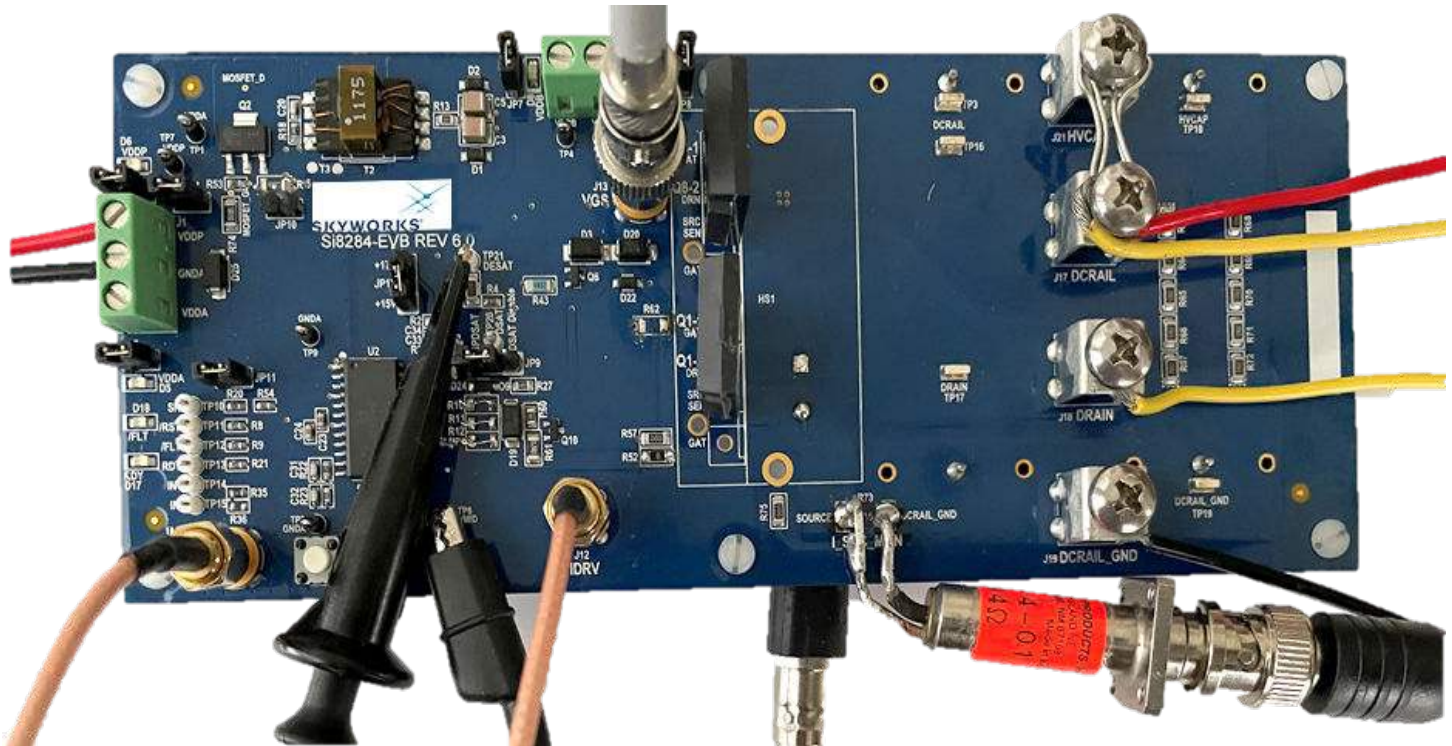
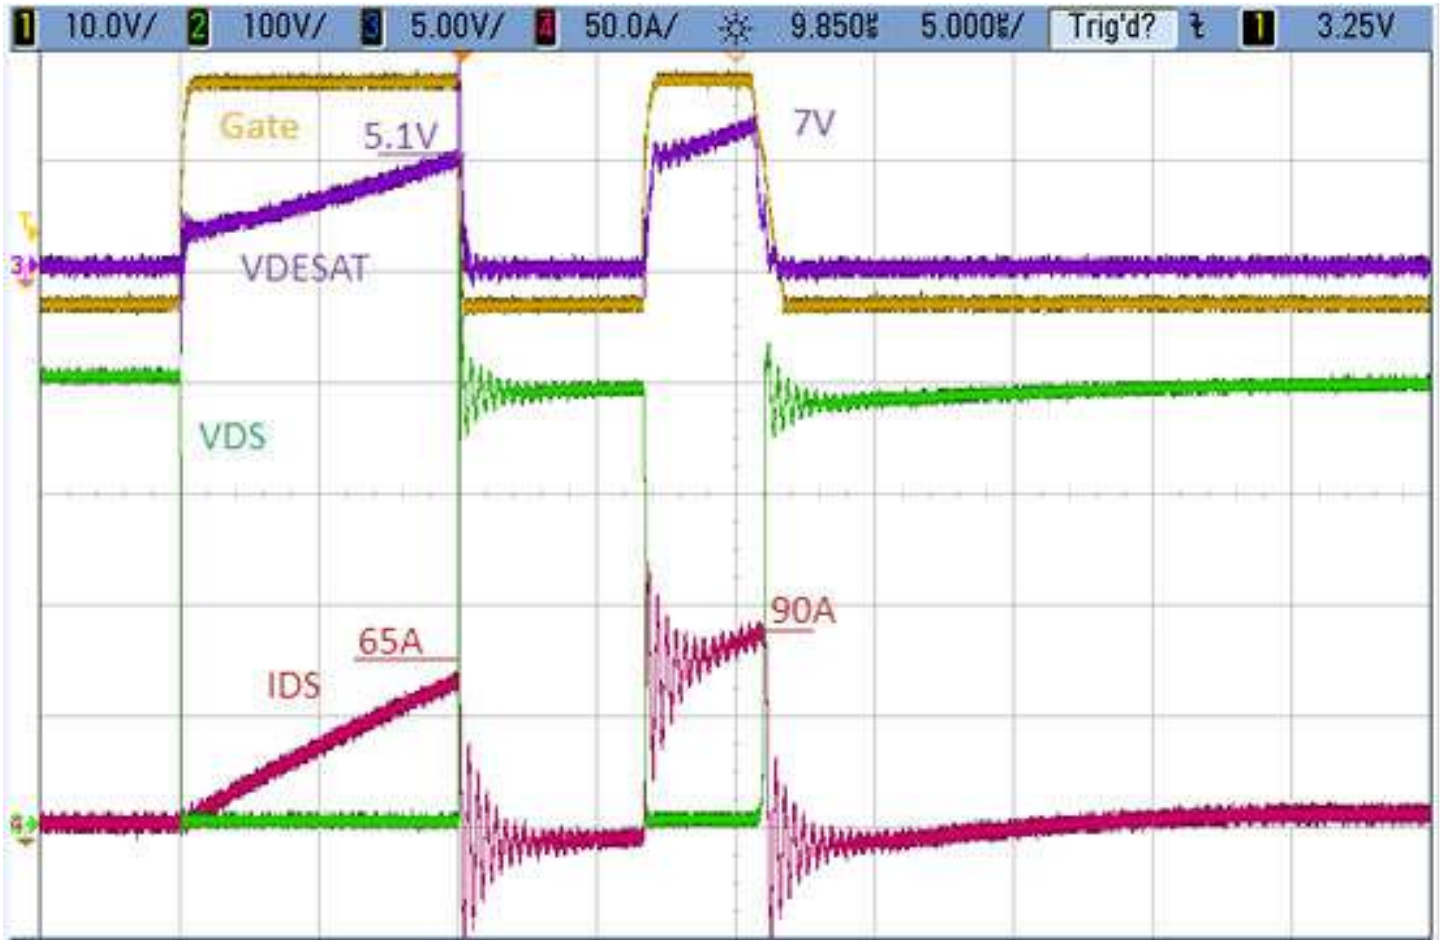

Figure 2.8. Si8284v2-EVB Connection for Double Pulse Test
Figure 2.10. Typical Signal Traces During Double Pulse Test
3. R73 is a 5 mΩ resistor for monitoring source current. The resistor is in parallel with J15. If desired, remove resistor R73 to allow the current viewing port to be installed. Install a T&M Research Products SDN Series 2 Watt current viewing port at J15 if this has not already been done. T&M current sensor should be installed with the center leg connected to J15-SOURCE so that all scope probes reference to the same GND. To view the current waveform from the reversed T&M current sensor connection, the scope input should be set in reversed polarity so that the current signal appears in its proper polarity (see figure Figure 2.10 Typical Signal Traces During Double Pulse Test on page 16). As shown in Figure 2.8 Si8284v2-EVB Connection for Double Pulse Test on page 14, a current monitoring loop may be installed in lieu of the current viewing port, and a current probe clamp may be used to view the source node current.